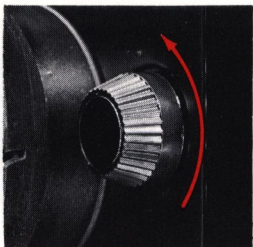

FIG. 20
2. To get into the scene, place the camera on a tripod, aim it at the scene, turn the viewfinder light-stop knob to the left* (Fig. 20), then press the trigger and push the locking lever down. The camera will keep running until the trigger is released.